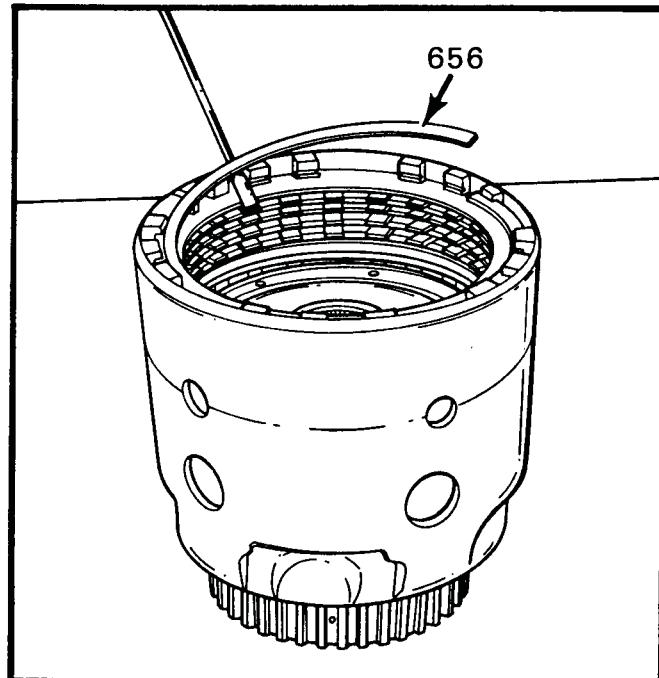

Figure 108
3. Remove the 3-4 clutch snap ring using a screwdriver, as shown in Figure 108.